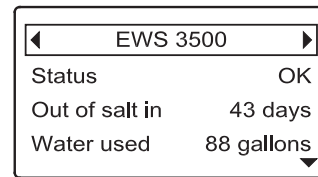

FIG. 59
1. Press the remote's LEFT (◀) or RIGHT (▶) buttons to manually advance to the **EWS 3500** status screen (See Figure 59).
1. Press the remote’s LEFT (◀) or RIGHT (▶) buttons to manually advance to the **EWS 3500** status screen (See Figure 59).